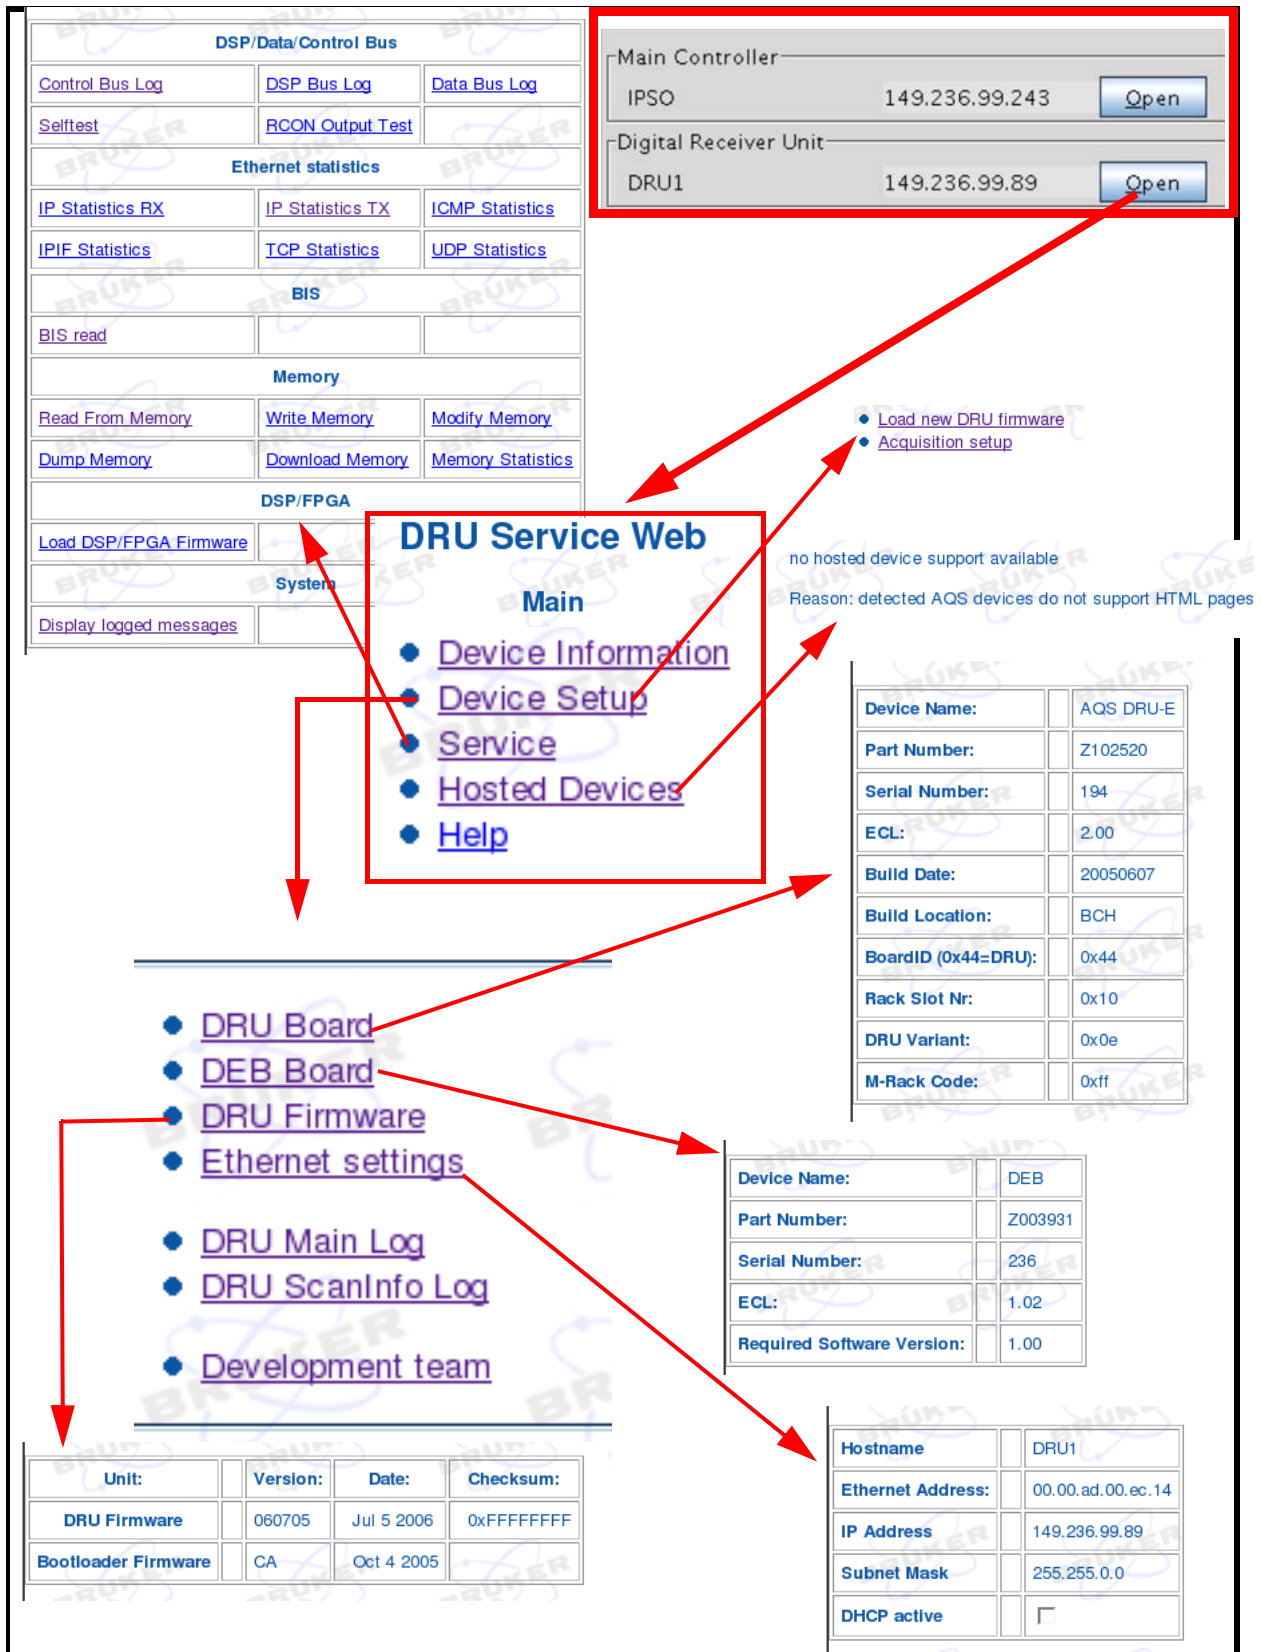

Figure 15.4. Aspects of the DRU service web
3. web page access. An extensive web page has been developed which can be opened by clicking on DRU after entering the 'ha;' command. **Figure 15.4** is a summary of some of the features. From this menu it is possible to
By virtue of the direct Ethernet link to the host workstation downloading new firmware to the DRU and DRU-E can now be done via any standard web browser. This can also be used to access production info such as serial number, ECL level etc. see **Figure 15.4.**